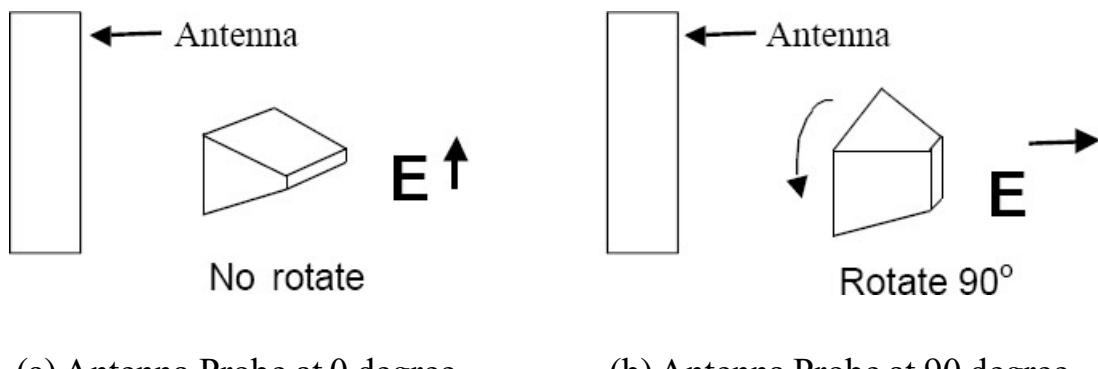
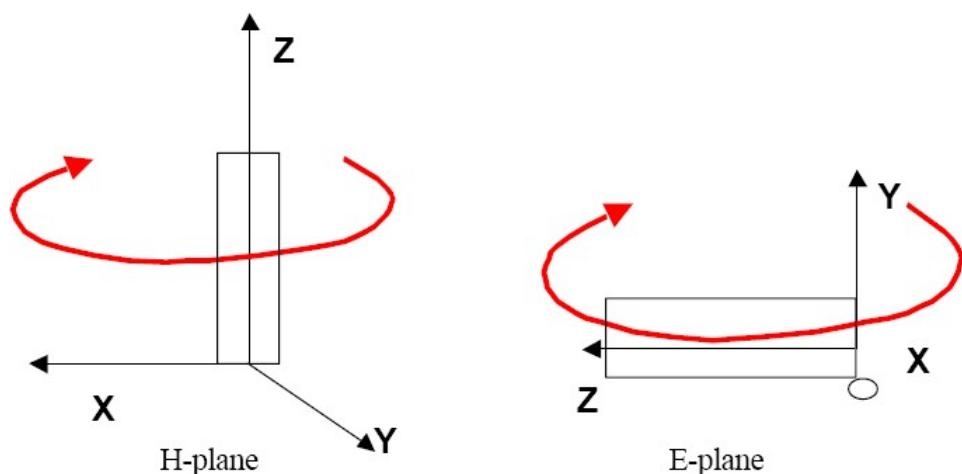

Fig. 3. The definition of vertical and horizontal polarization.
Fig. 4. The plane definition : H-Planes and E-Planes.
- (4) Gain of AUT. The standard gain antenna is a gain horn(SG-430 1.7GHz ~ 2.6GHz).
- (5) The planes defined in the Fig. 4 which we want to measure are H(X-Y) and E(X-Z) planes. The vertical or horizontal polarization's power is measured by rotating the antenna probe to 0 degree or to 90 degree shown in Fig. 3, respectively. While we combine both vertical and horizontal power, we obtain total power.
- (6) From the total power in three basic planes(H, and E), we can analyze the performance of the antenna is good or not.